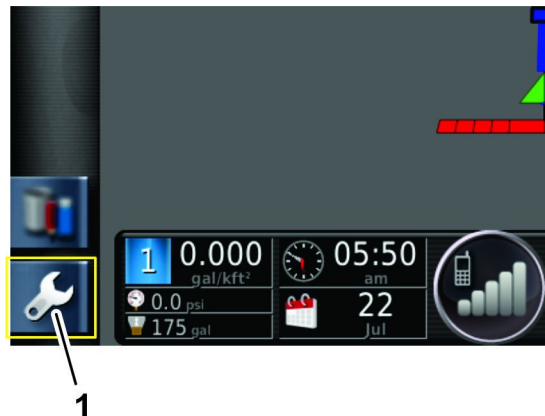

Figure 205
3. Press the SETUP icon on the main screen (Figure 205).